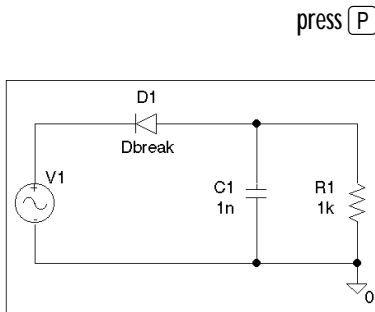

Figure 30 Design for a half-wave rectifier.
- 4 Place one each of the following parts (reference designator shown in parentheses) as shown in Figure 30:
- 6 From the Place menu, choose Wire, and draw the connections between parts as shown in Figure 30.